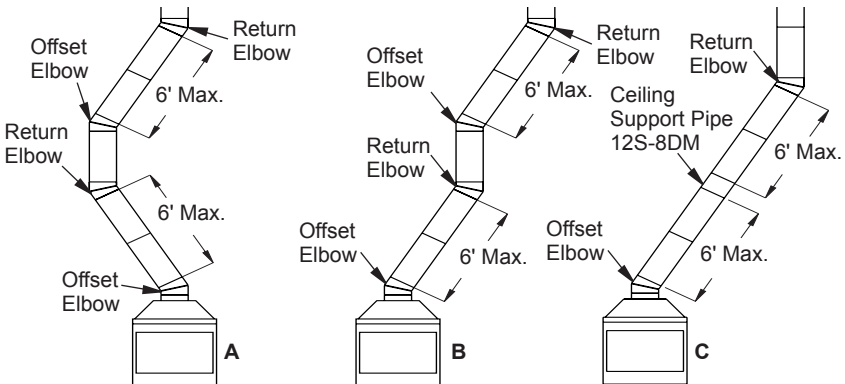

Figure 11 - Typical Offset Terminations (For Systems with 2 Elbow Sets, Minimum Height is 25 ft., Maximum Height for Any System is 40 ft.)
1. To achieve desired offset, you may install combinations of 12", 18", 24", 36" and 48" length of double wall pipe (see offset chart and Figure 11).
- Maximum length of pipe between supports (return elbow or 12S-8DM) is 6' of angle run. Maximum of two 6' angle run sections per chimney system (see Figure 11, page 8).